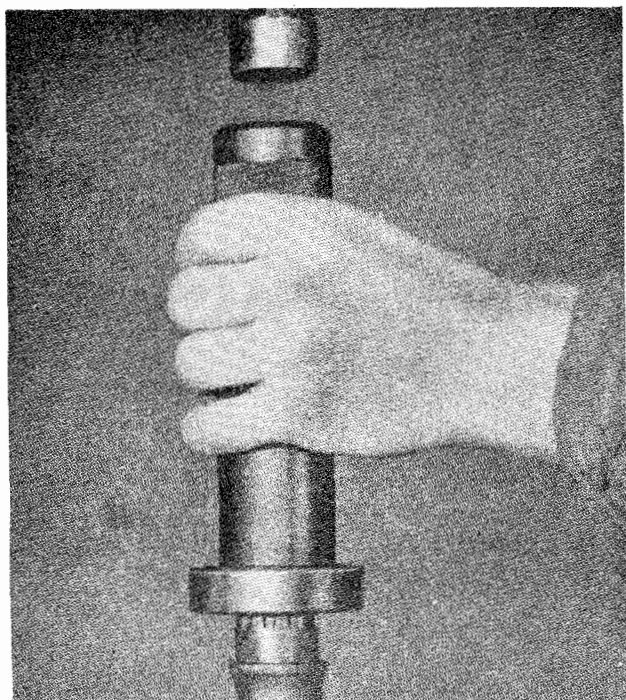

**Fig. 8** Replacing hub oil seal utilising Churchill Tool No. M29.
- (a) The replacement of the hub oil seal is shown in Fig. 8, utilising Churchill Tool No. M29.